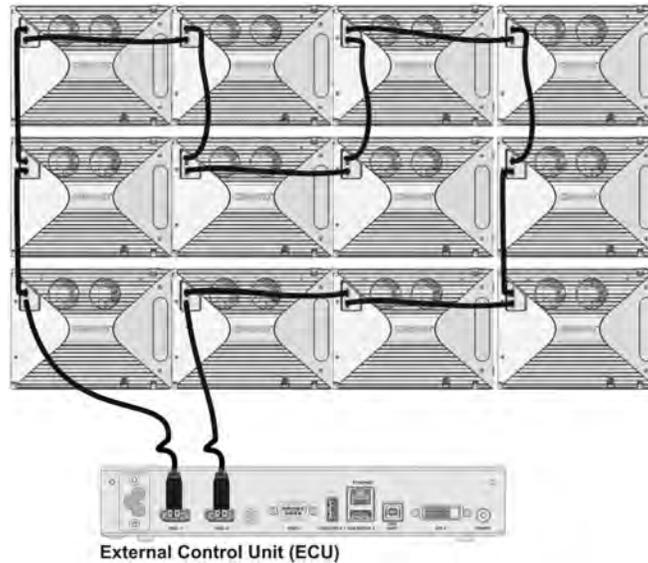

Figure 2-14 Cable Routing for a Simple Array (Complete Loop)
2. Daisy chain the cable from one tile to the next and plug the last one back into the ECU (**Figure 2-14**). **NOTE:** The display port cable has a built in retention latch. When disconnecting the cable, the latch must be pressed down in order to avoid damaging the cable (**Figure 2-13**).